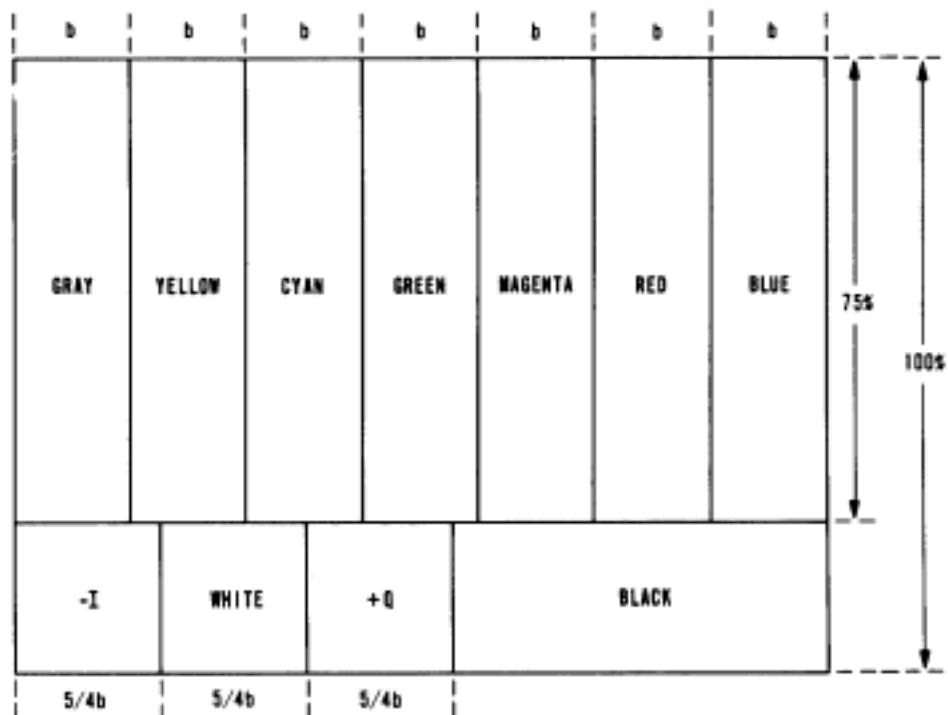
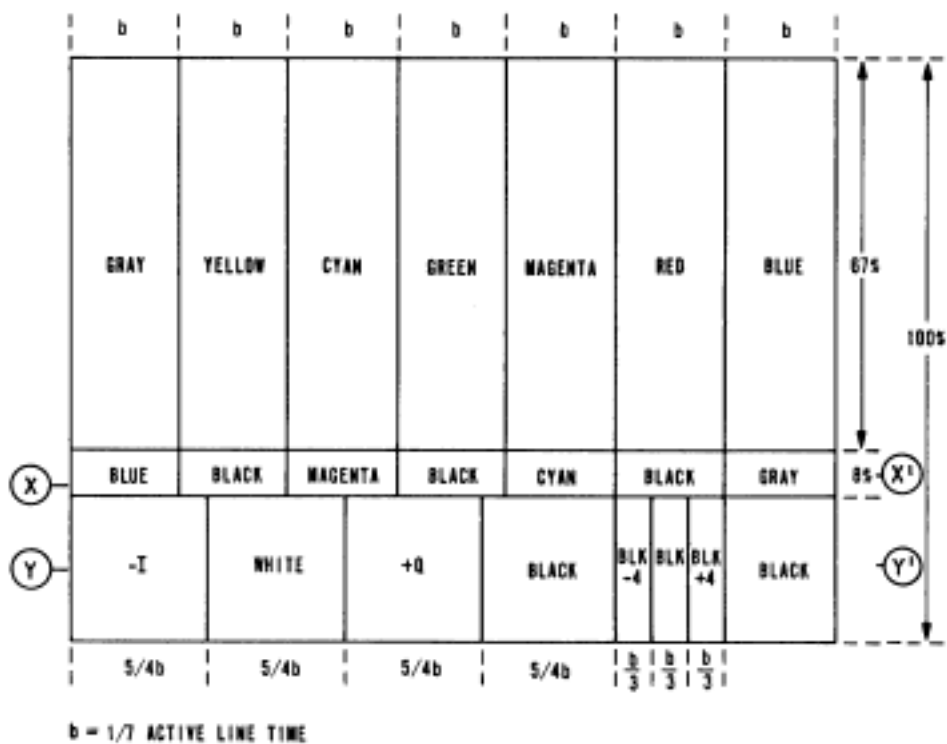

Figure 1 – EIA standard RS-189-A, Encoded color bar signal
Figure 2 – Alignment color bar test signal
2.2 Chroma gain and chroma phase for picture monitors are conventionally adjusted by observing the standard encoded color bar signal (see figure 1) with red and green monitor guns switched off. The four visible blue bars are adjusted for equal brightness. This procedure is prone to error because of the subjective judgment necessary and especially because the blue bars are widely separated on the screen. The use of the chroma set signal portion of the alignment color bar test signal greatly increases the accuracy of this adjustment since it provides a signal with the blue bars to be matched vertically adjacent to each other. Because the bars are adjacent, the eye can easily perceive any difference in brightness. It also eliminates effects due to shading or purity from one part of the monitor to another.
3.1 Figure 1 shows the appearance of the EIA Standard RS-189-A, Encoded Color Bar Signal, on a picture monitor. Figure 2 shows the appearance of the alignment color bar test signal on a picture monitor. Note that figure 2, the Alignment Color Bar Test Signal, is the same as figure 1 except for the addition of chroma set signal (X-X') and black set signal (within Y-Y').